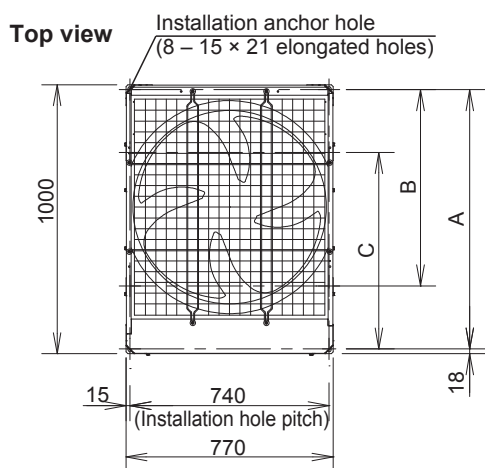

Fig. 2-4-19a
(See Figs. 2-4-19a-b / "A", "B" or "C".)
- Below shows vibration insulator position when setting anchor bolt at position A (Figs.2-4-19a and 2-4-19b).
- Below shows vibration insulator position when setting anchor bolt at position B (Figs.2-4-19a and 2-4-19b).
- Below shows vibration insulator position when setting anchor bolt at position C (Figs.2-4-19a and 2-4-19b).